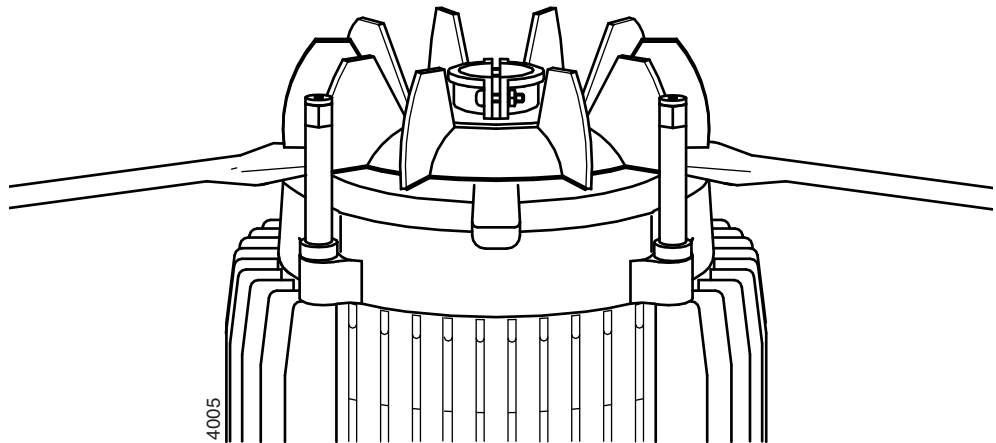

Figure 8: Removing the cooling fan.
- 3 Remove the cooling fan (2420-2). For electric motors from 2,2 kW you must first loosen 2 clamping screws. After that, remove the fan from the shaft end by means of 2 broad screw drivers, see figure 8.